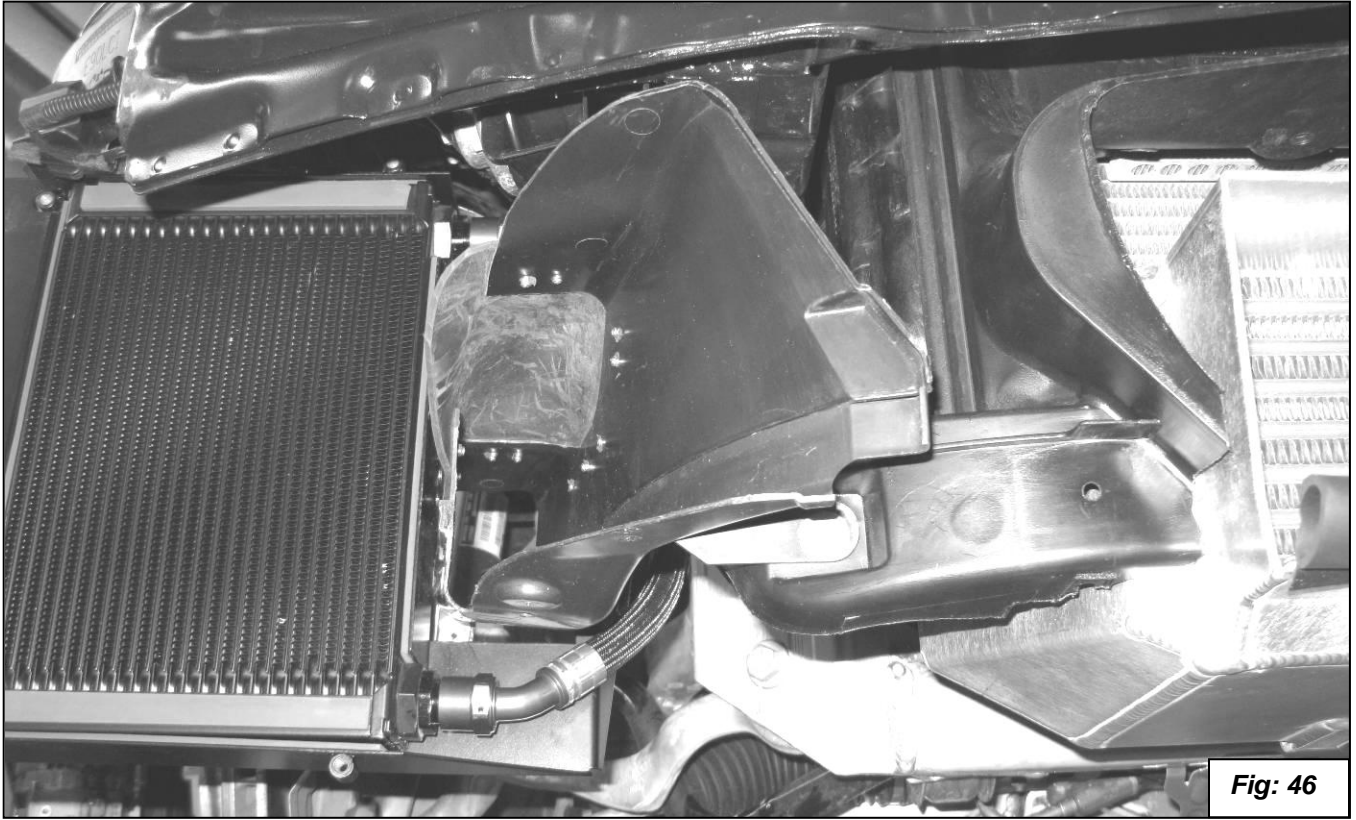

Fig: 46
40. Install the modified brake duct and check for clearance as shown in **figure 46** and **47**.